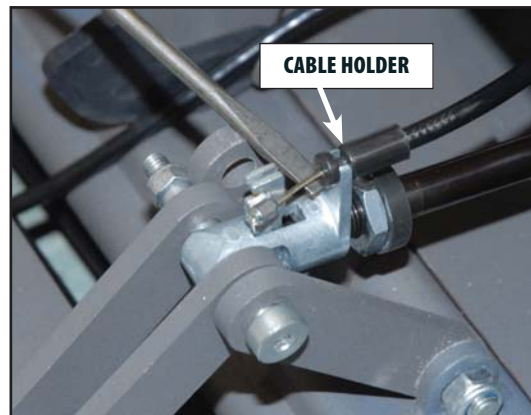

FIGURE 6.8
5. Use a small flat-head screwdriver to free the cable from the Cable Holder on the Lever attached to the top of the Gas Spring. Free the Cable and remove. Refer to **Figure 6.8**.